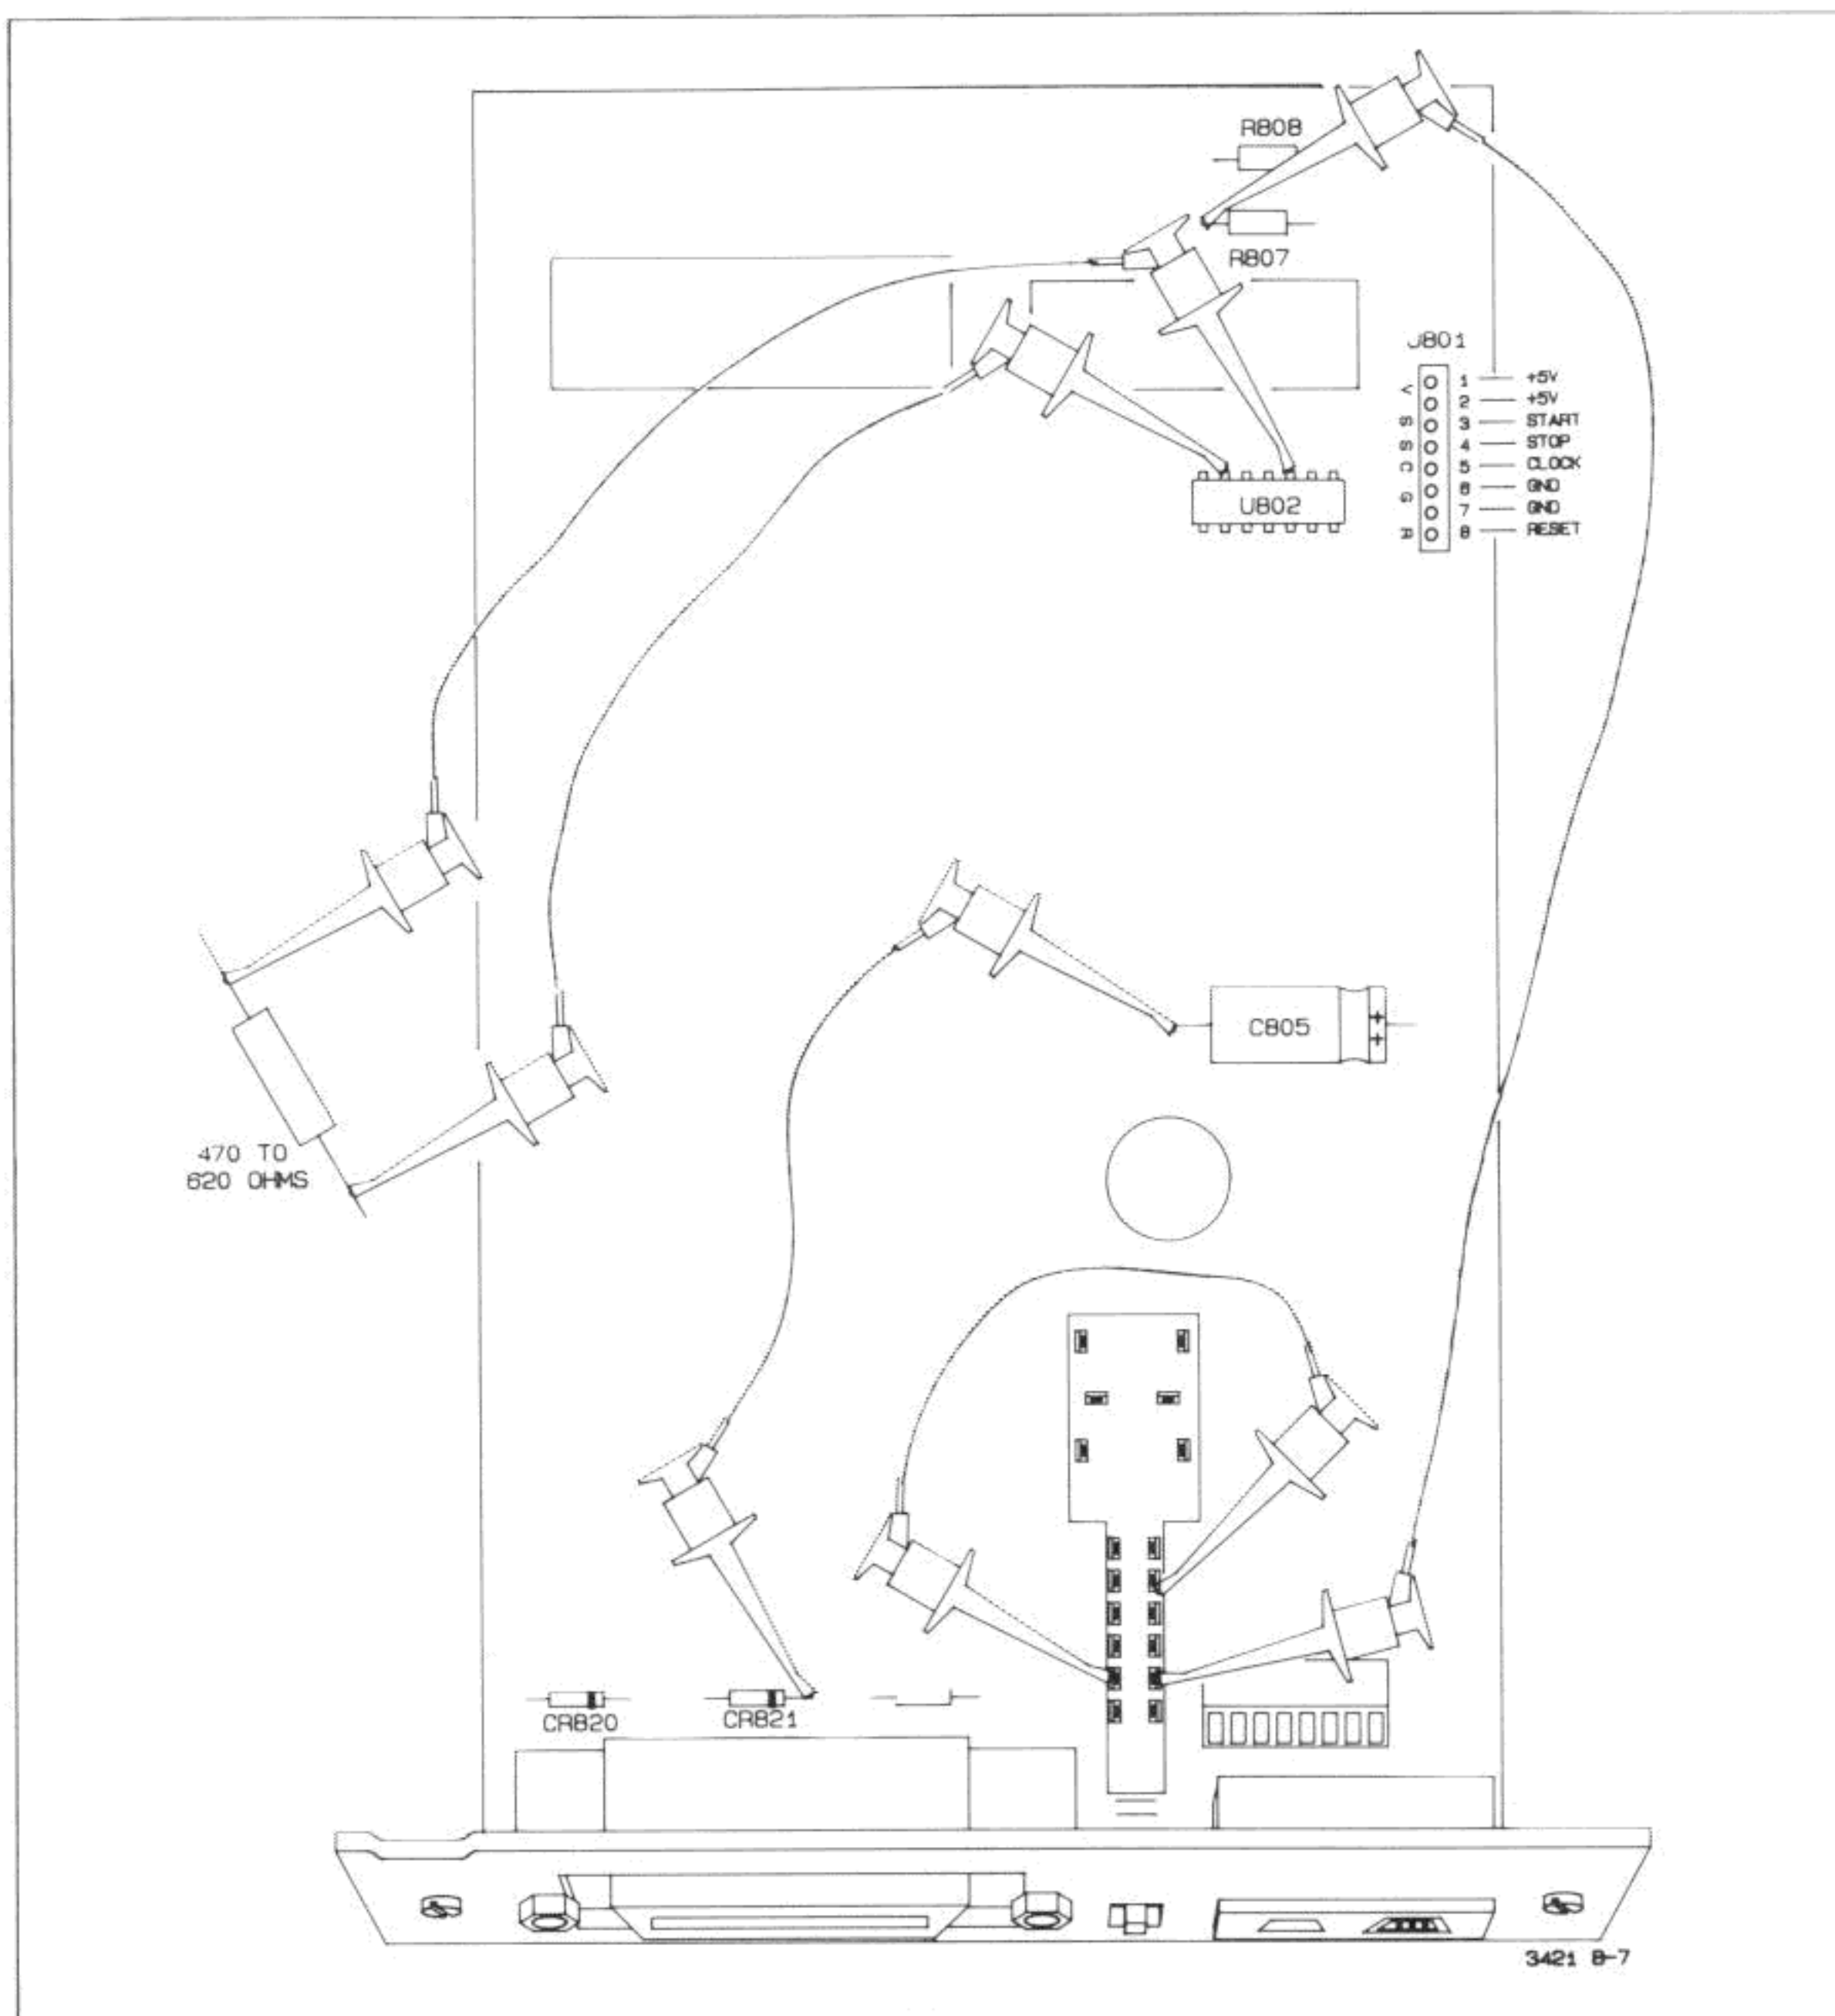

Figure 4-8-7. Jumper Configuration for SA Test #1 (HP-IL Signatures)
c. Refer to Figure 4-8-7 and perform the following jumper configuration.